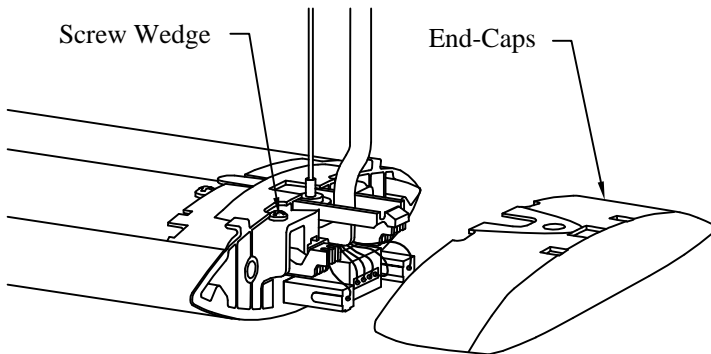
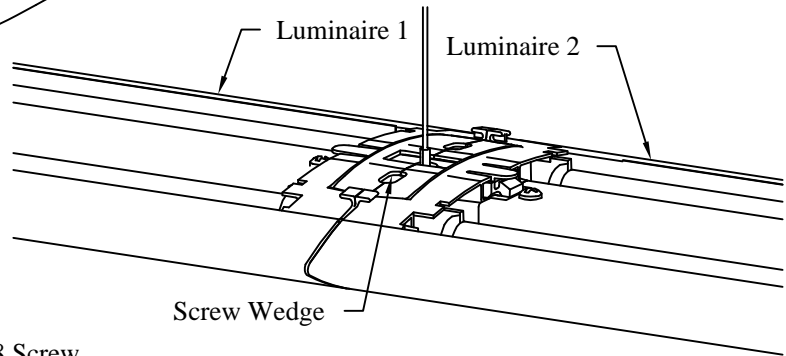

Figure 6
Figure 7
4. Place end-caps at luminaire extremities (Figure 6) or connect next luminaire in row (Figure 7).